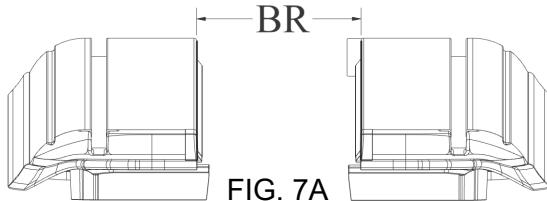

FIG. 7A
Check for proper spacing by measuring between the rails at the canister and the tailgate end of the rails (Fig 7A). The measurement should be equal to or less than those in Fig 7B. The Rail Brackets and Shims have been pre-installed to achieve the proper Between the Rail dimensions (BR) when placed on an average factory truck bed. However, not all truck beds are average dimensionally and some have optional plastic caps or over the rail spray-in bedliners.